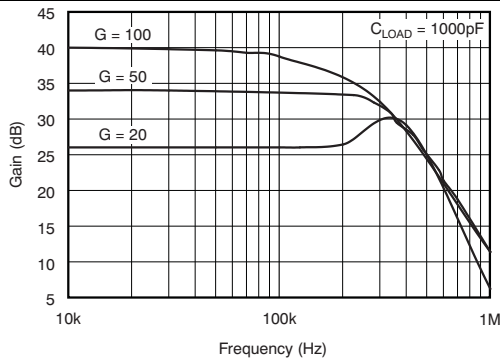

**Figure 1. Typical Comparator Hysteresis**
- (1) Hysteresis refers to the threshold (the threshold specification applies to a rising edge of a noninverting input) of a falling edge on the noninverting input of the comparator; refer to Figure 1.
- (2) Specified by design.
- (3)  $V_{ID}$  refers to the differential voltage at the comparator inputs.
- (4) Open-drain output can be pulled to the range of 2.7 to 18 V, regardless of  $V_S$ .
- (5) The comparator response time specified is the interval between the input step function and the instant when the output crosses 1.4 V.
- (6) The  $\overline{\text{RESET}}$  input has an internal 2  $\text{M}\Omega$  (typical) pull-down. Leaving  $\overline{\text{RESET}}$  open results in a LOW state, with transparent comparator operation.